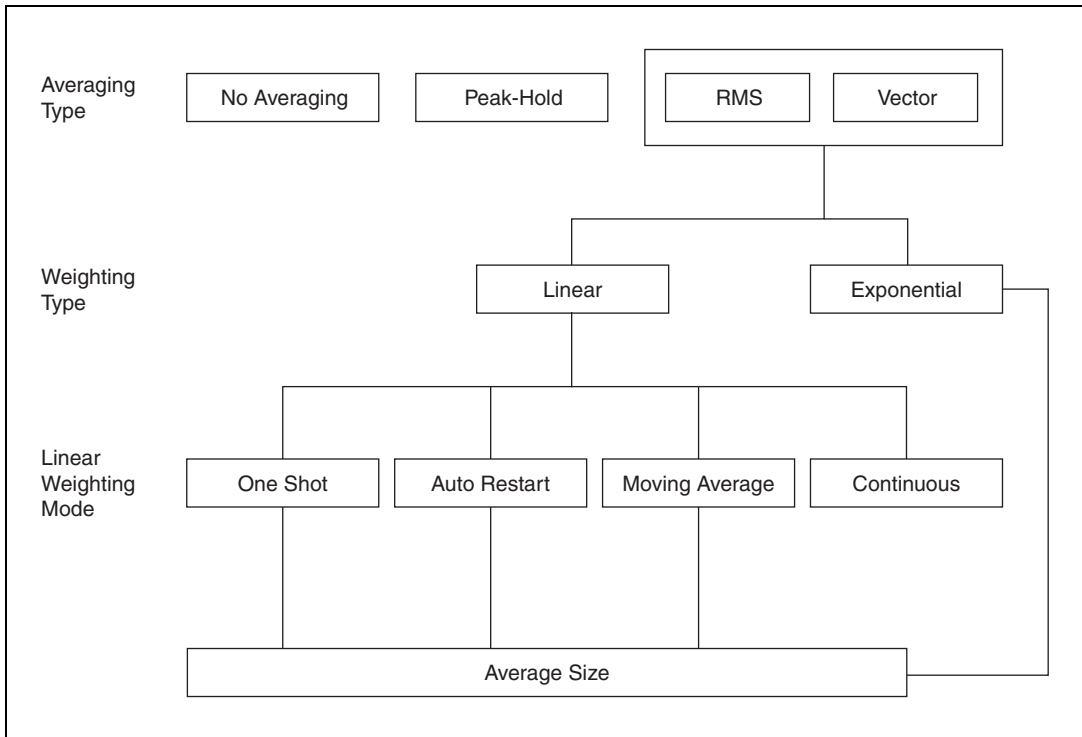

Figure 5. RFSAs Demo Panel Spectrum Averaging Options
4. Specify averaging applied to returned data in **Averaging Type**. Figure 5 illustrates the hierarchy of options for spectrum averaging.